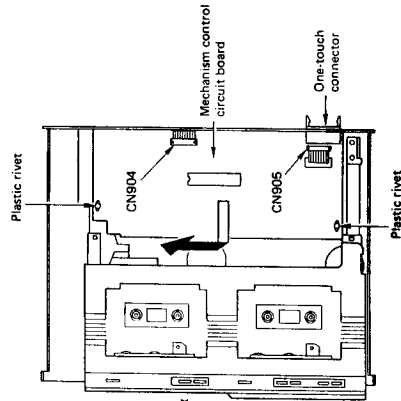

Fig. 13
- 2) As shown in Fig. 13 remove CN904 and CN905 of the mechanism control circuit board, and remove the plastic rivets.